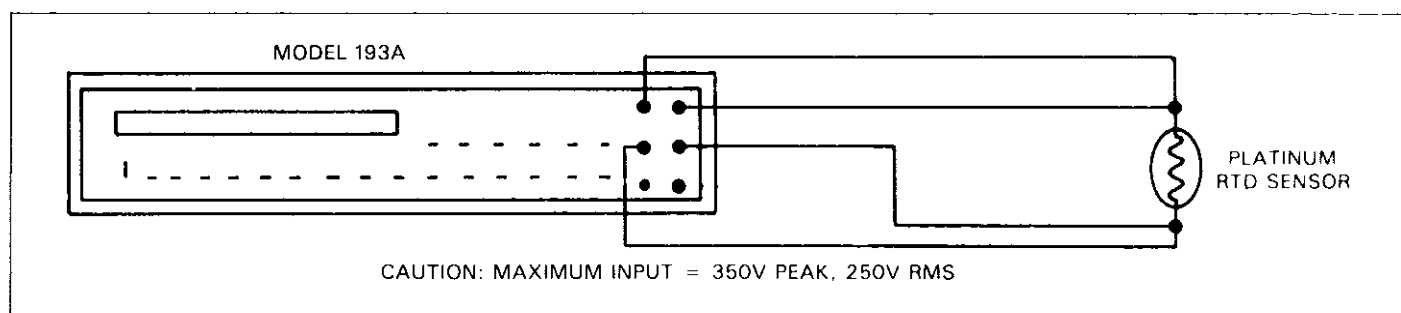

Figure 2-8. RTD Temperature Measurements
4. Select the front or rear panel input terminals with the INPUT switch and connect the platinum RTD sensor to the instrument as shown in Figure 2-8.